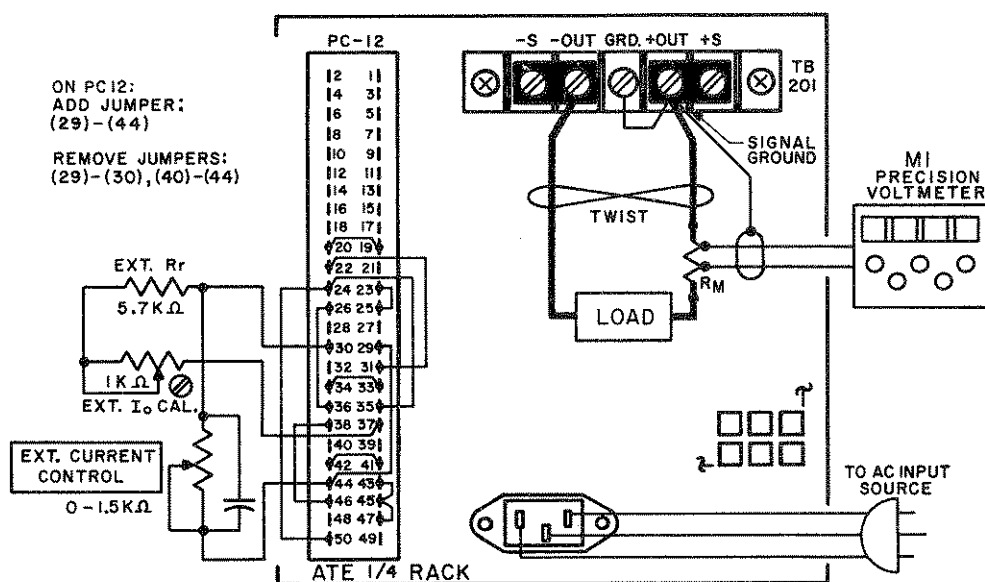

FIG. 3-13 CONNECTIONS FOR ATE OUTPUT CURRENT CONTROL WITH A TWO-TERMINAL RESISTANCE.
- 1) Connect the external components, the LOAD and the PRECISION VOLTMETER (M1) to the ATE as shown in FIG. 3-13. NOTE: The output current value can be measured directly by means of a suitable ammeter in series with the load or, as indicated in FIG. 3-13, indirectly by means of the precision voltmeter (M1) across a current measuring resistor (R_M). R_M should be selected such that a convenient range on the precision voltmeter can be used, e.g., for a 10 ampere output current, use a 0.1 ohm resistor to produce one volt full scale. If an electronic voltmeter is used, it should be battery operated to avoid ground loops.